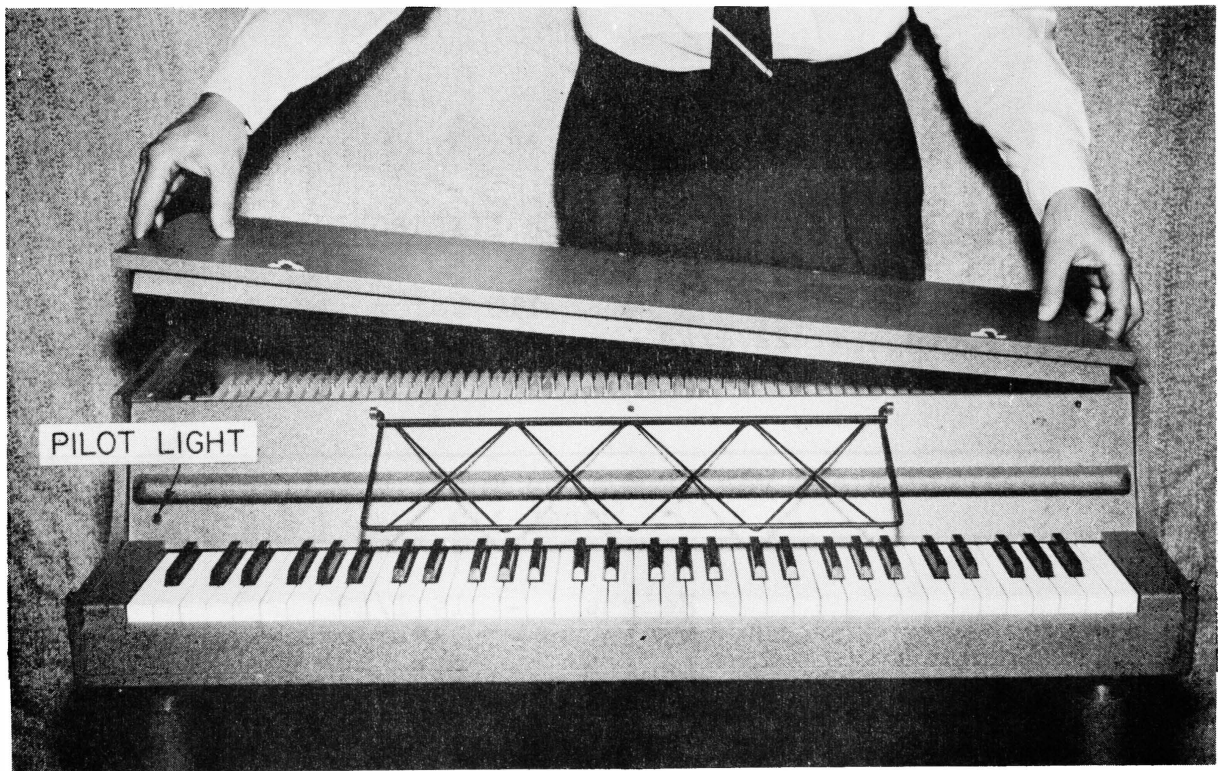
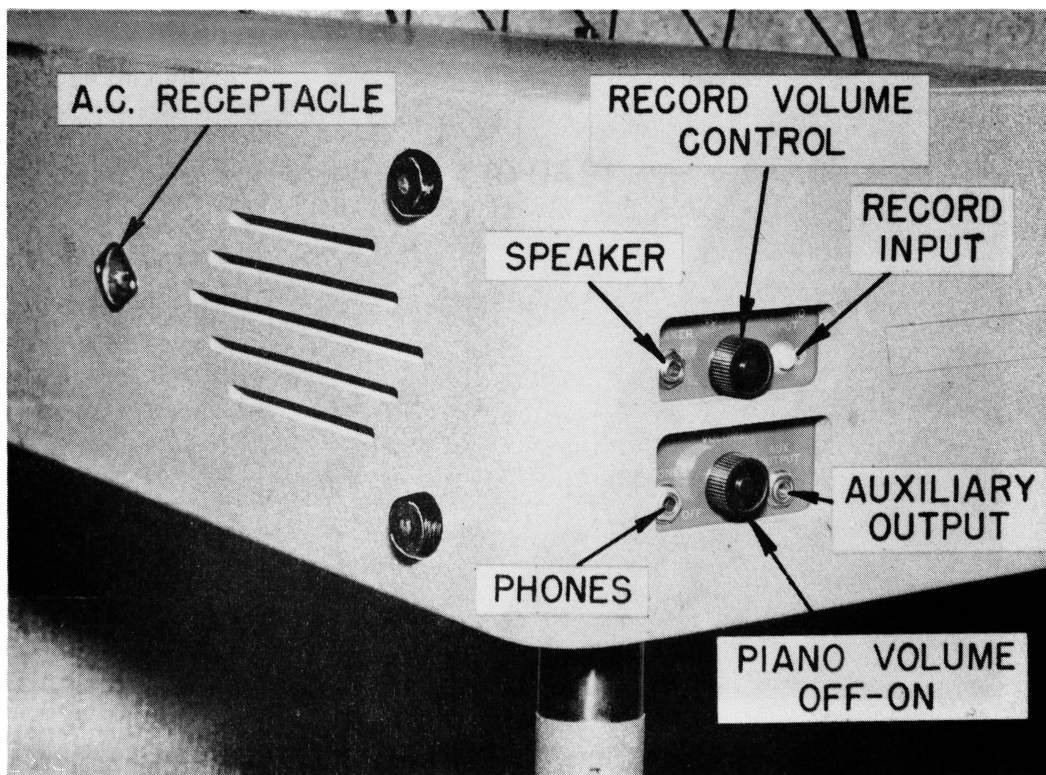

Fig. 2
Fig. 4
4. Lift top completely off piano as shown in Fig. 2.
9. SWITCH: The line switch is on the piano volume control and its "off" position is clearly indicated on the unit and also in Fig. 4. As the piano volume control is rotated clockwise, the switch will click and the pilot light on the front of the piano will glow (See Fig. 2).